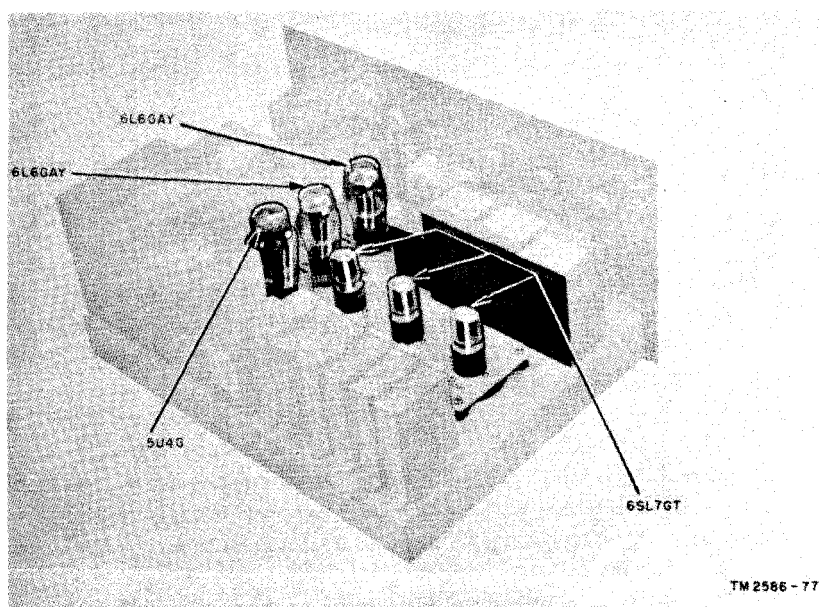

Figure 28. Amplifier chassis, rear view, showing tube layout.
- (1) Disconnect all cables from the amplifier.
- (2) Remove the six screws (three on each side) from the front of the amplifier control panel.
- (3) Remove the amplifier chassis from its case.
- (4) Remove the tube clamps, and remove the tubes from the amplifier chassis (fig. 28).